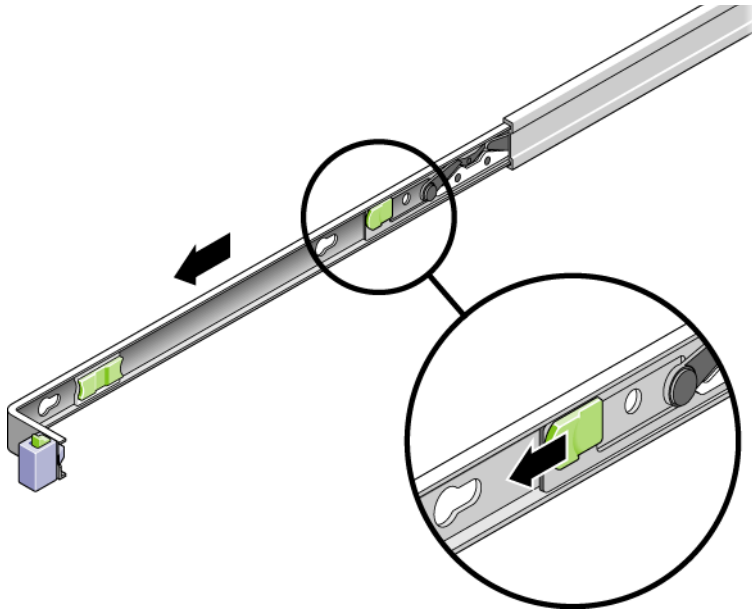

FIGURE 3-2 Location of the Mounting Bracket Release Buttons
6. Press the release buttons on both mounting brackets (FIGURE 3-2) to release the right and left mounting brackets, then pull the server chassis out of the rails. The mounting brackets slide approximately 4 in (10 cm) further before disengaging.